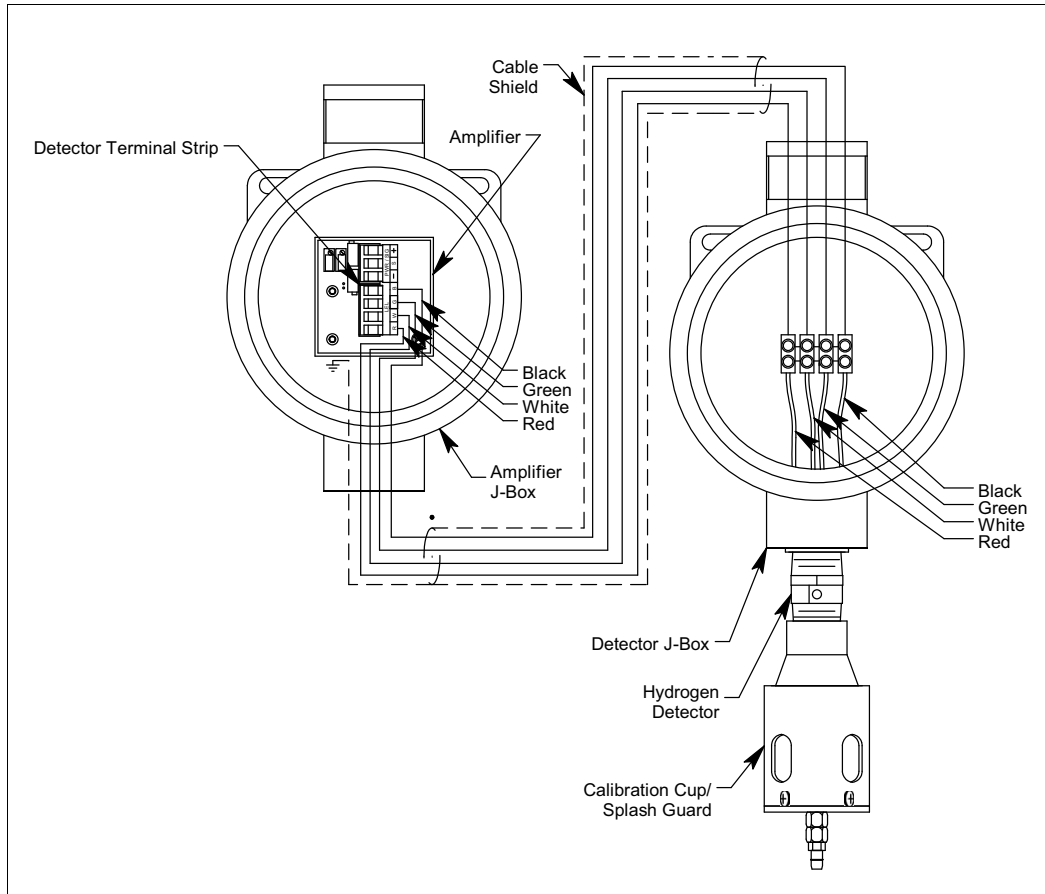

Figure 3: Wiring the Detector to the Amplifier
9. Pull out the detector terminal strip and connect the four wires to the terminal strip as follows (see Figure 3).
8. Connect the detector leads to the terminal block the same way the old detector was wired (see Figure 3 on page 11).